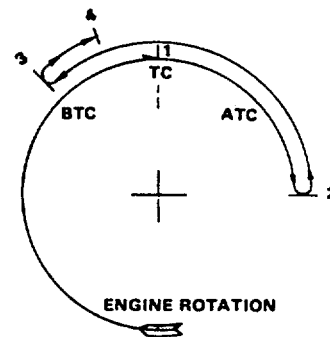

Figure 13-54. Engine Injection Timing Procedure Diagram
- c. Install timing tool in place of injector with one rod in push tube socket and with other rod resting on piston. Follow procedures as shown on figure 13-54 and steps e(1) through e(4), below. The numbers on the diagram show check points corresponding to numbered instruction steps.